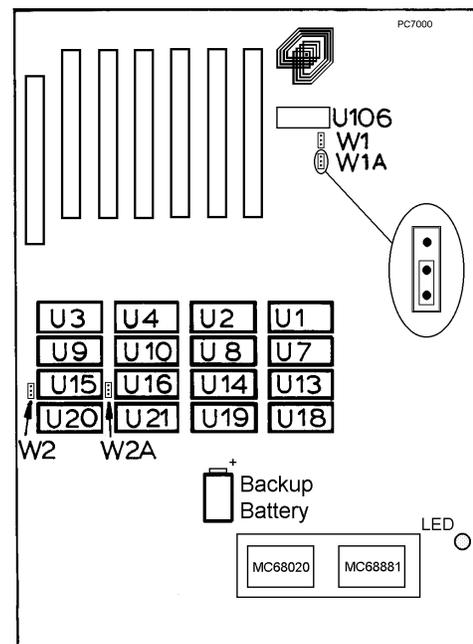

Figure 8-1: Main Board - Memory
Turn on the controller. Check the red LED on the main board, as shown in Figure 8-1. If it remains lit, the CPU is in the HALT state. Turn off the controller and remove all the driver cards. (For instructions on removing driver cards, refer to the section, "Adjustments and Repairs," later in this chapter.) Then turn the controller on again.
- Hardware: Refer to Figure 8-1. Make sure *all four jumpers* for configuring user RAM (W1, W1A, W2, W2A) are set for 128K RAM. The two lower pins must be shorted.